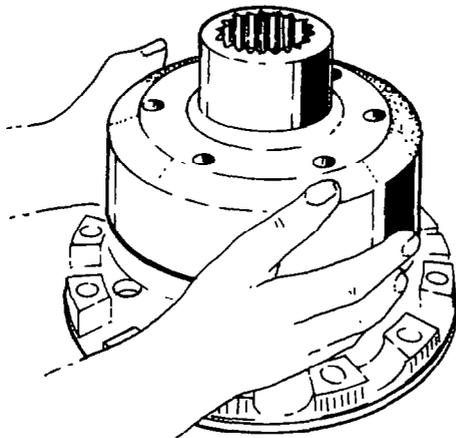

Fig. 296 — Removing Outer Cam
- j. Remove the outer cam from the cage (see fig. 296).